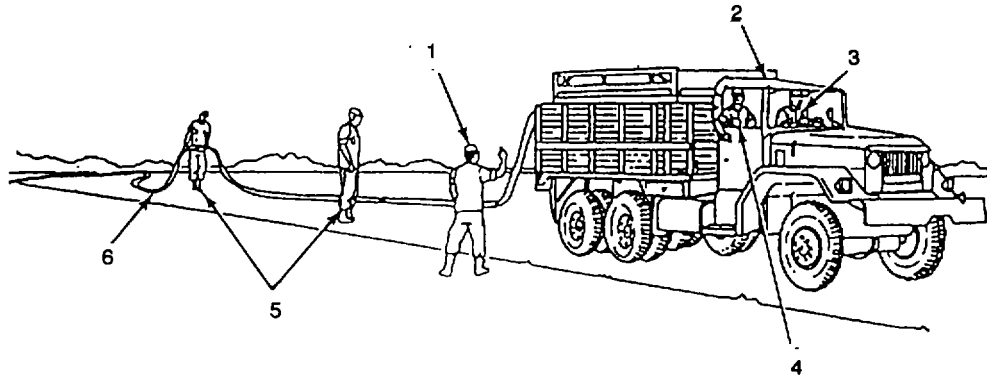

Figure 2-6. Hose-Laying Operations
- (4) A minimum of two trucks with crews of five men each is recommended for hose-laying operations. Crews alternate between laying hose and reloading trucks. Individual task assignments for each crew member are as follows:
- (a) One supervisor (1, Figure 2-6) is needed per truck (2) to oversee hose-laying operations. Should a problem develop during hose-laying operations, the supervisor (1) is responsible for contacting operators at pumping stations who are packing the hoseline.
- (b) One driver (3) is needed to operate each truck (2).